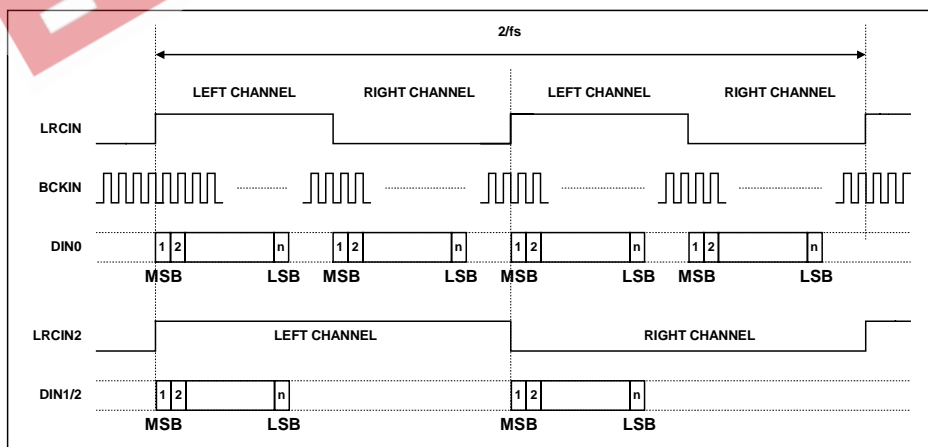

Figure 9 Split Rate Audio Mode Timing Diagram
When running in split rate mode all the channels are clocked in using a common BCKIN; the front channels using LRCIN and all the other channels using LRCIN2 see Figure 9.
1. Figure 9 shows the timing for left justified however this is similar for right justified and I²S.